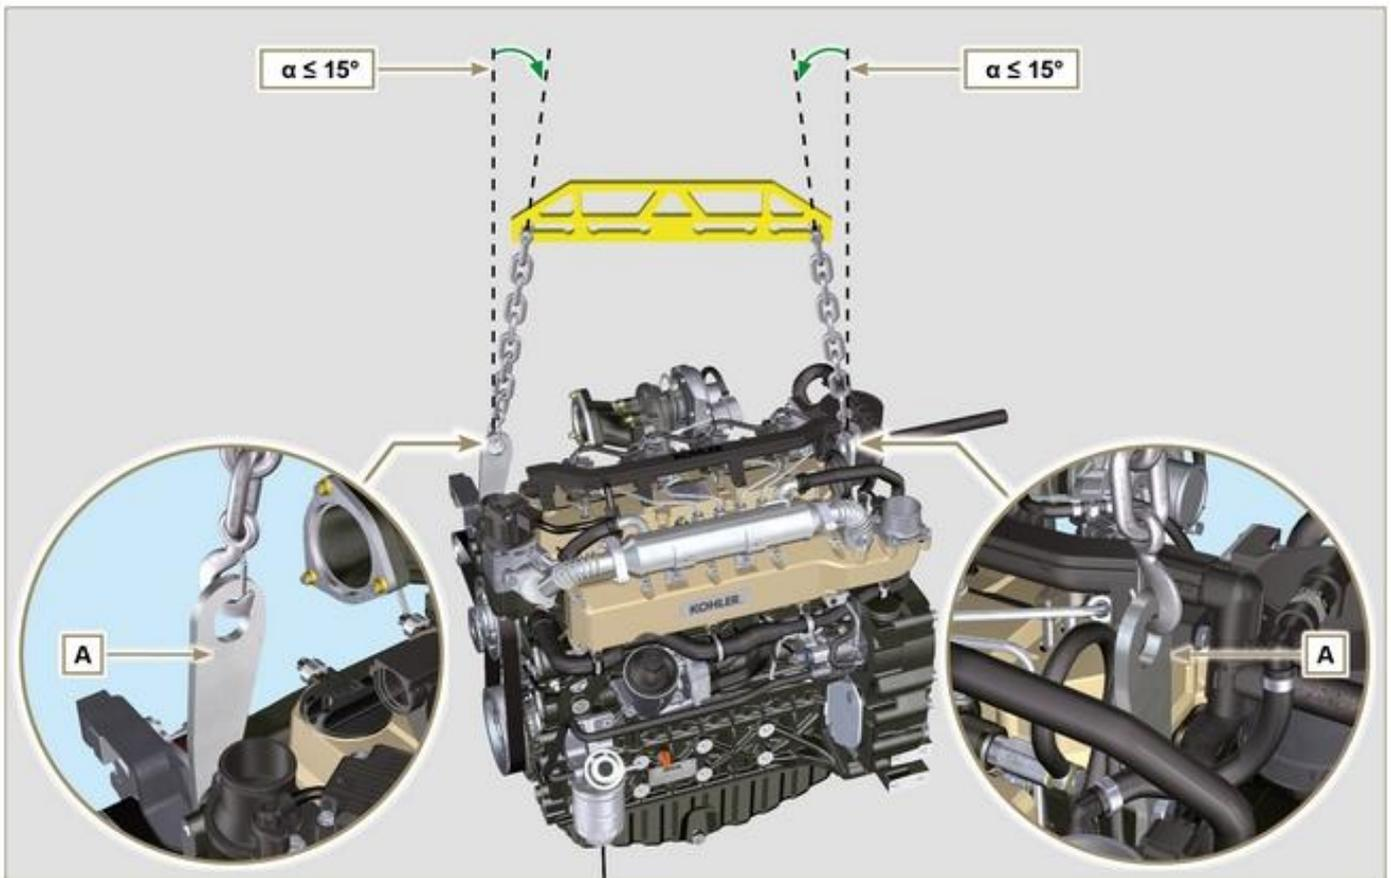

Fig 3.1
- Only use the eyebolts **A** installed by **REHLKO** to move the engine (**Fig. 3.1**).